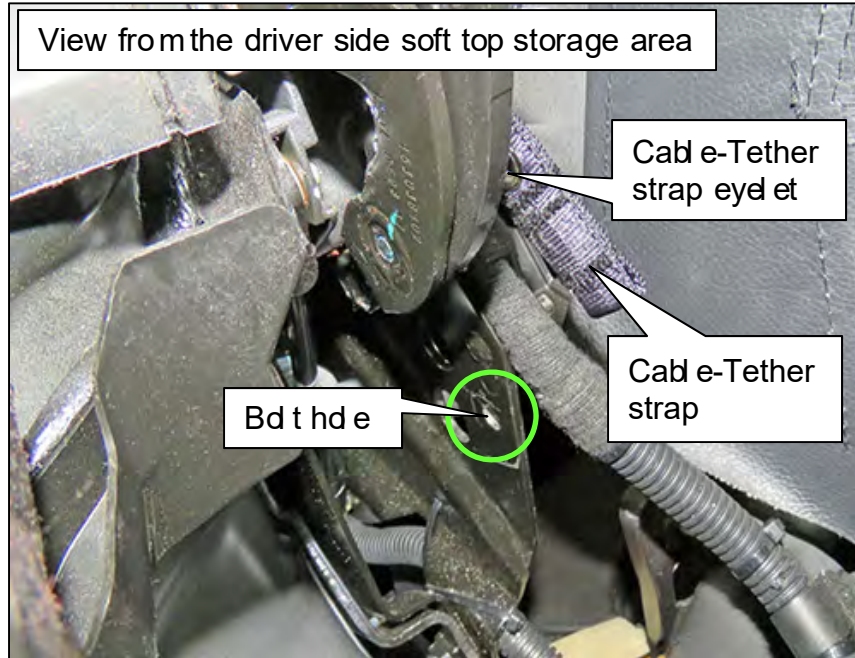
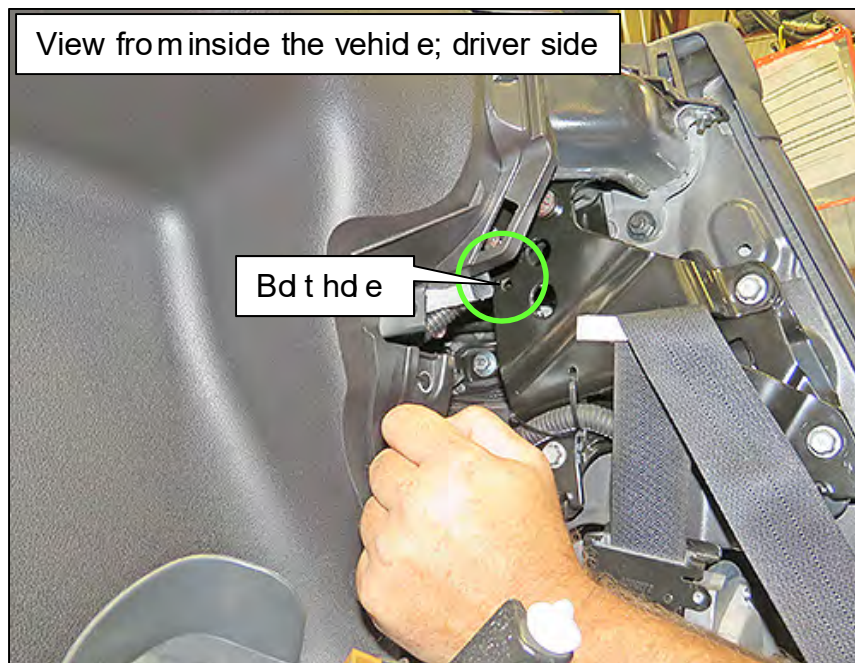

Figure 52
Figure 53
For steps 60-64 refer to Figure 52 and Figure 53 below.
- Figure 52 and Figure 53 show two views of the bolt head that will be used to attach the Cab e-Tether strap.
- Figure 52 is from the soft top storage area and Figure 53 is from inside the vehicle.
60. Insert bolt (BOLT-SPL) through the eyelet in the Cab e-Tether strap and then insert the bolt through the hole shown in Figure 52 and Figure 53.